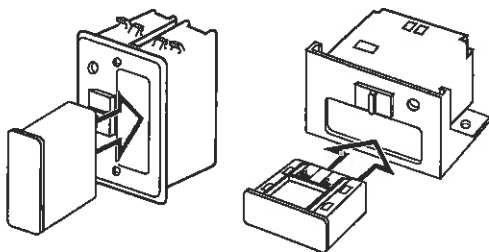

Figure 5
#### CODING INSTRUCTIONS: (see figure 5)
6. Slide the battery compartment into the Remote Receiver. See *Figure 5*.